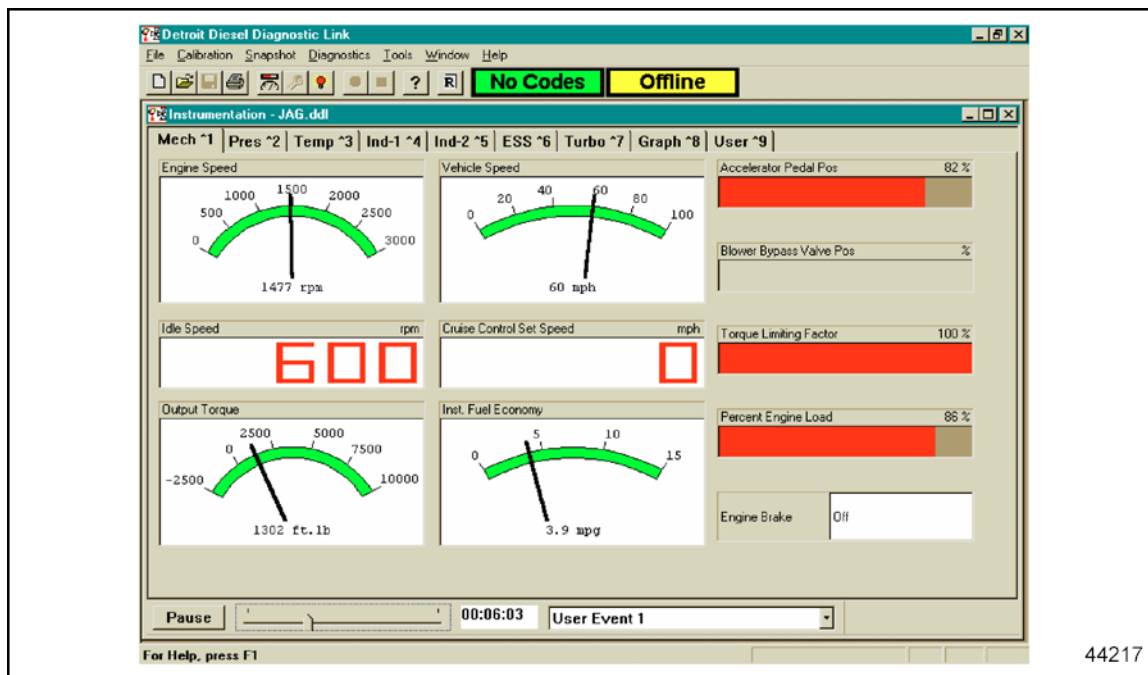

Figure 6-8 Normal Instrumentation Window
8. To move to a specific time in the replay, drag the replay slider button. When dragging the slider, the time shown in the time box changes to reflect the position of the slider. See Figure 6-8.